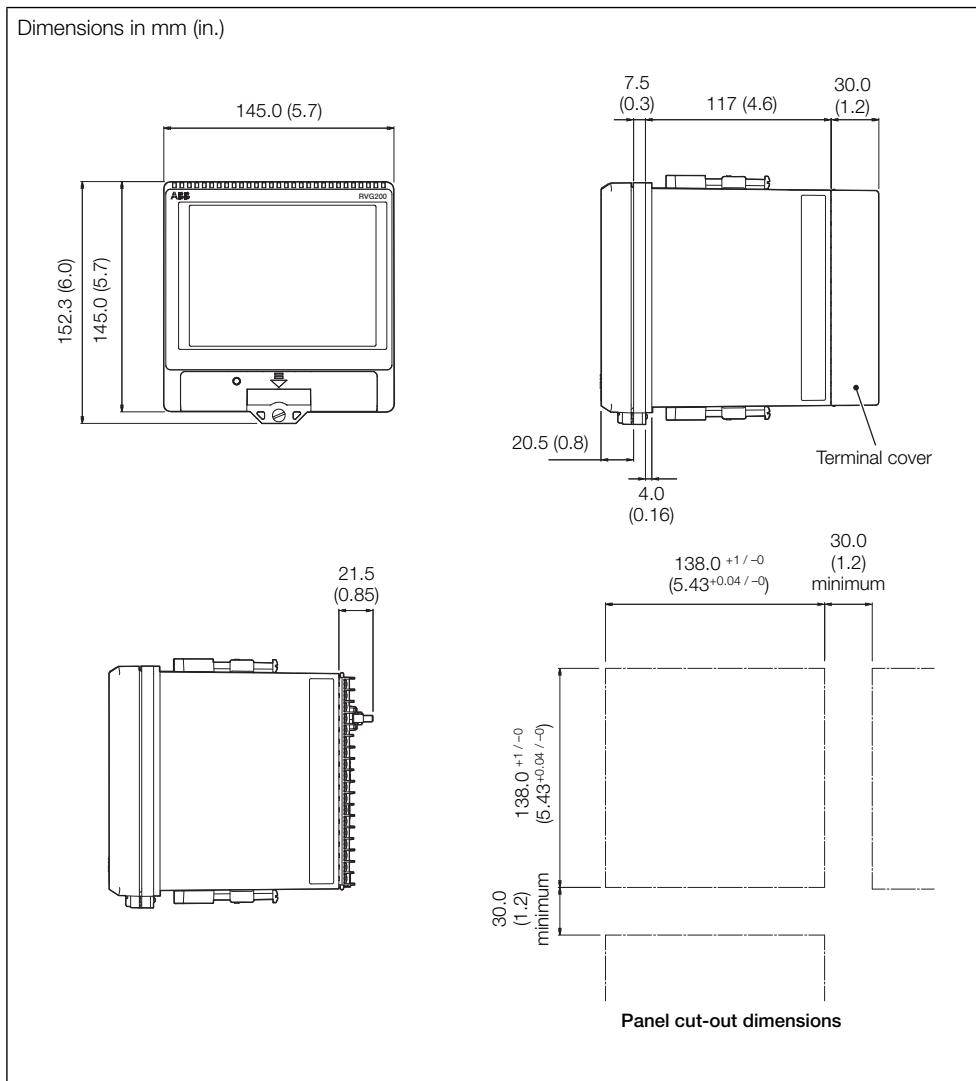

Fig. 3.3 Mounting dimensions
- ① Cut the correct sized hole in the panel – see Fig. 3.3, page 12.
- ② Insert the recorder into the panel cut-out.
- ③ Fit upper and lower panel clamps.
- ④ Tighten the clamping screws evenly and securely to a torque of 20 Nm (177 lbf.in).